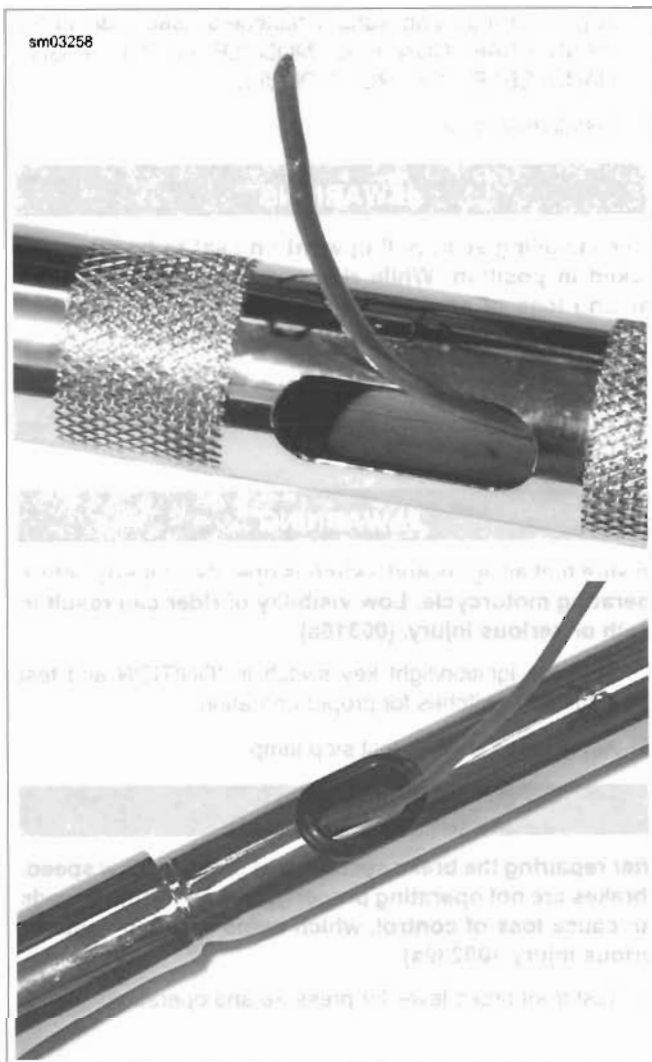

Figure 2-99. Wire Leader in Handlebars (handlebars removed from motorcycle)
7. See Figure 2-99. Thread the wire leaders through the handlebar grommets and out the center hole.